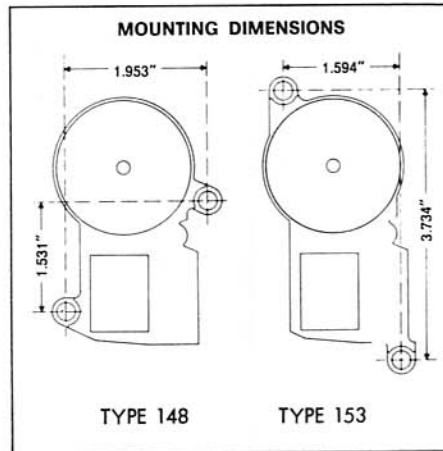
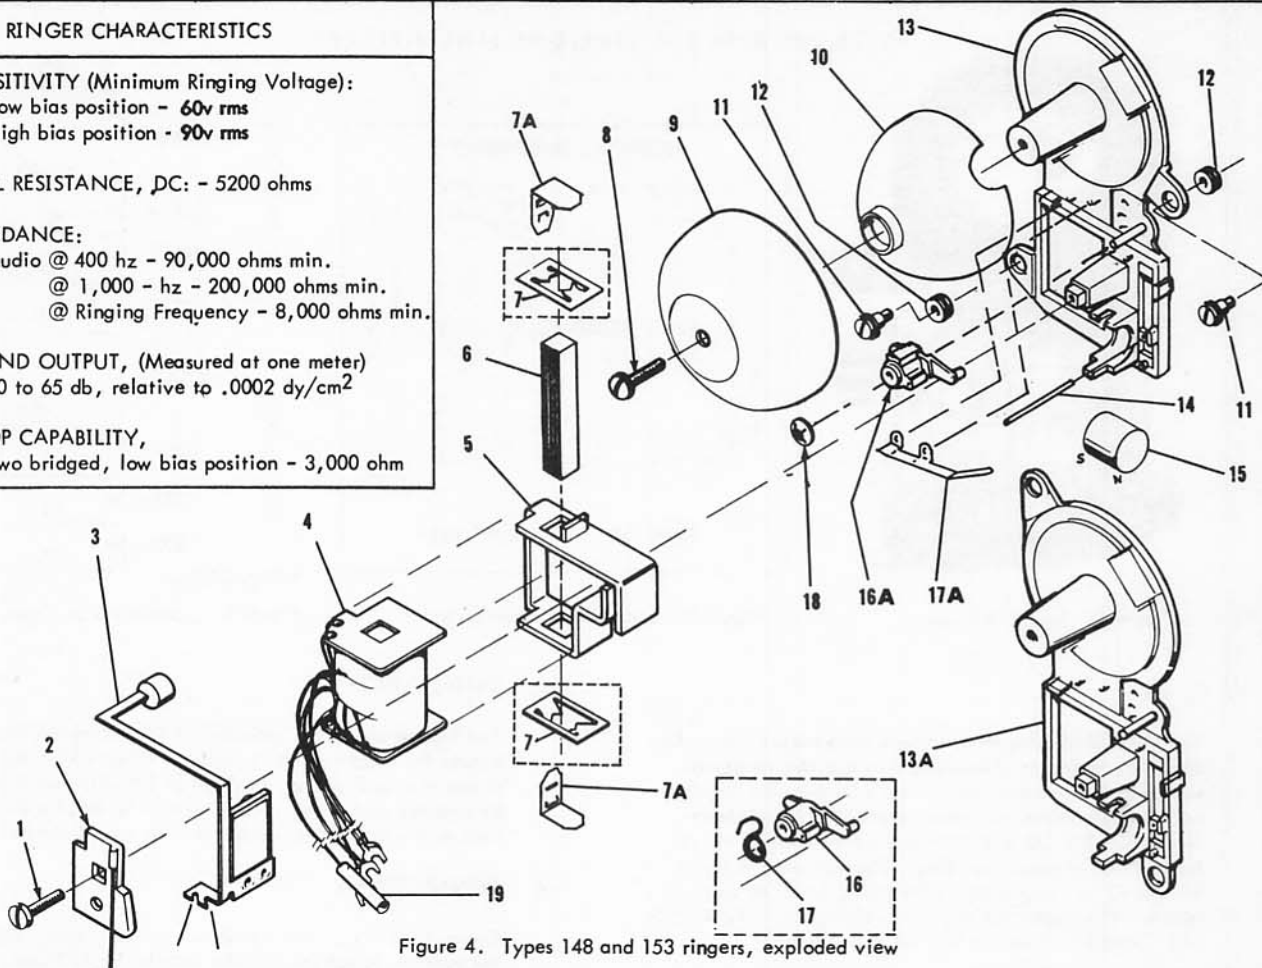

Figure 2. Location of mounting holes
Figure 4. Types 148 and 153 ringers, exploded view
Early models of the 148 and 153 ringers used two push nuts (7, figure 2) to hold the lamination assembly in place. Current models use L-shaped retainers, (7A, figure 4) for this purpose. The L-shaped retainers are recommended for any replacement purposes.
6.2 COIL REPLACEMENT (Figure 4)